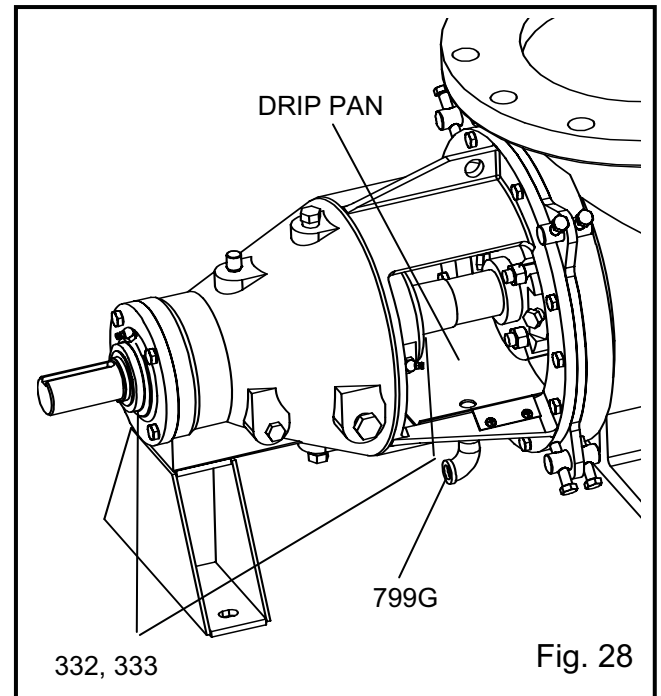

Fig. 28
Labyrinth seals have been provided to extend the life of the bearings and prevent premature bearing housing rebuild. They should occasionally be cleaned externally and checked for wear, see Fig. 28.
4. An external drip pan (799G) drain is provided to carry away normal gland leakage, see Fig. 28.